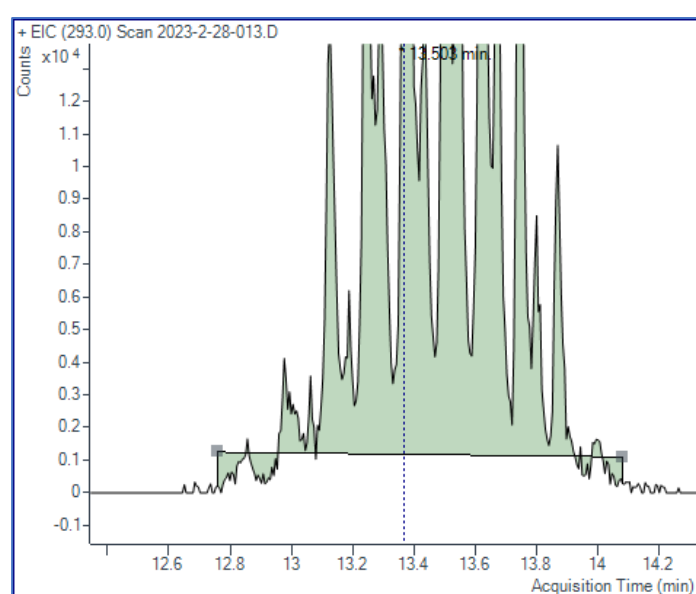

Figure 1: Manual integration often results in an inconsistent baseline, even for an expert chemist.
GC/MS data analysis is often manual, time consuming, and error prone (see Fig 1). Even though many automated integrators are available, a chemist may still need to manually correct integration peaks and baselines. A new quantitative analysis software automates peak integration during the data analysis process for analytical testing laboratories. A Machine Learning (ML) model is custom-trained through a user's standardized data analysis workflow, observing manual peak integration events. Machine Learning then replaces manual peak integration with adaptable artificial intelligence (AI)-assisted peak detection and integration with continuous learning.